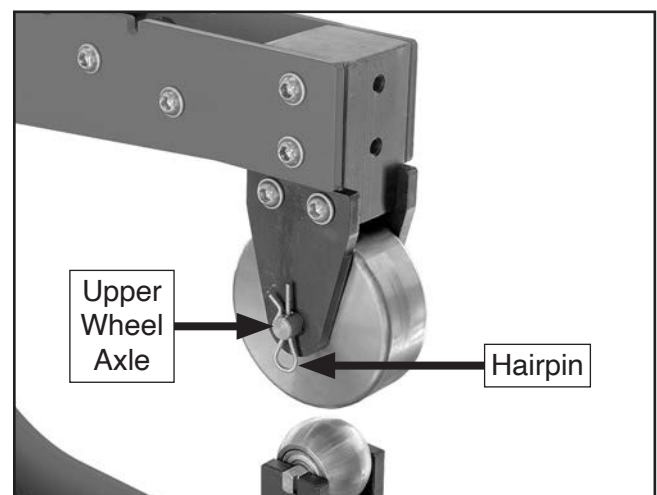

Figure 10. Upper wheel secured.
8. Install hairpin in upper wheel axle to secure upper wheel (see **Figure 10**).